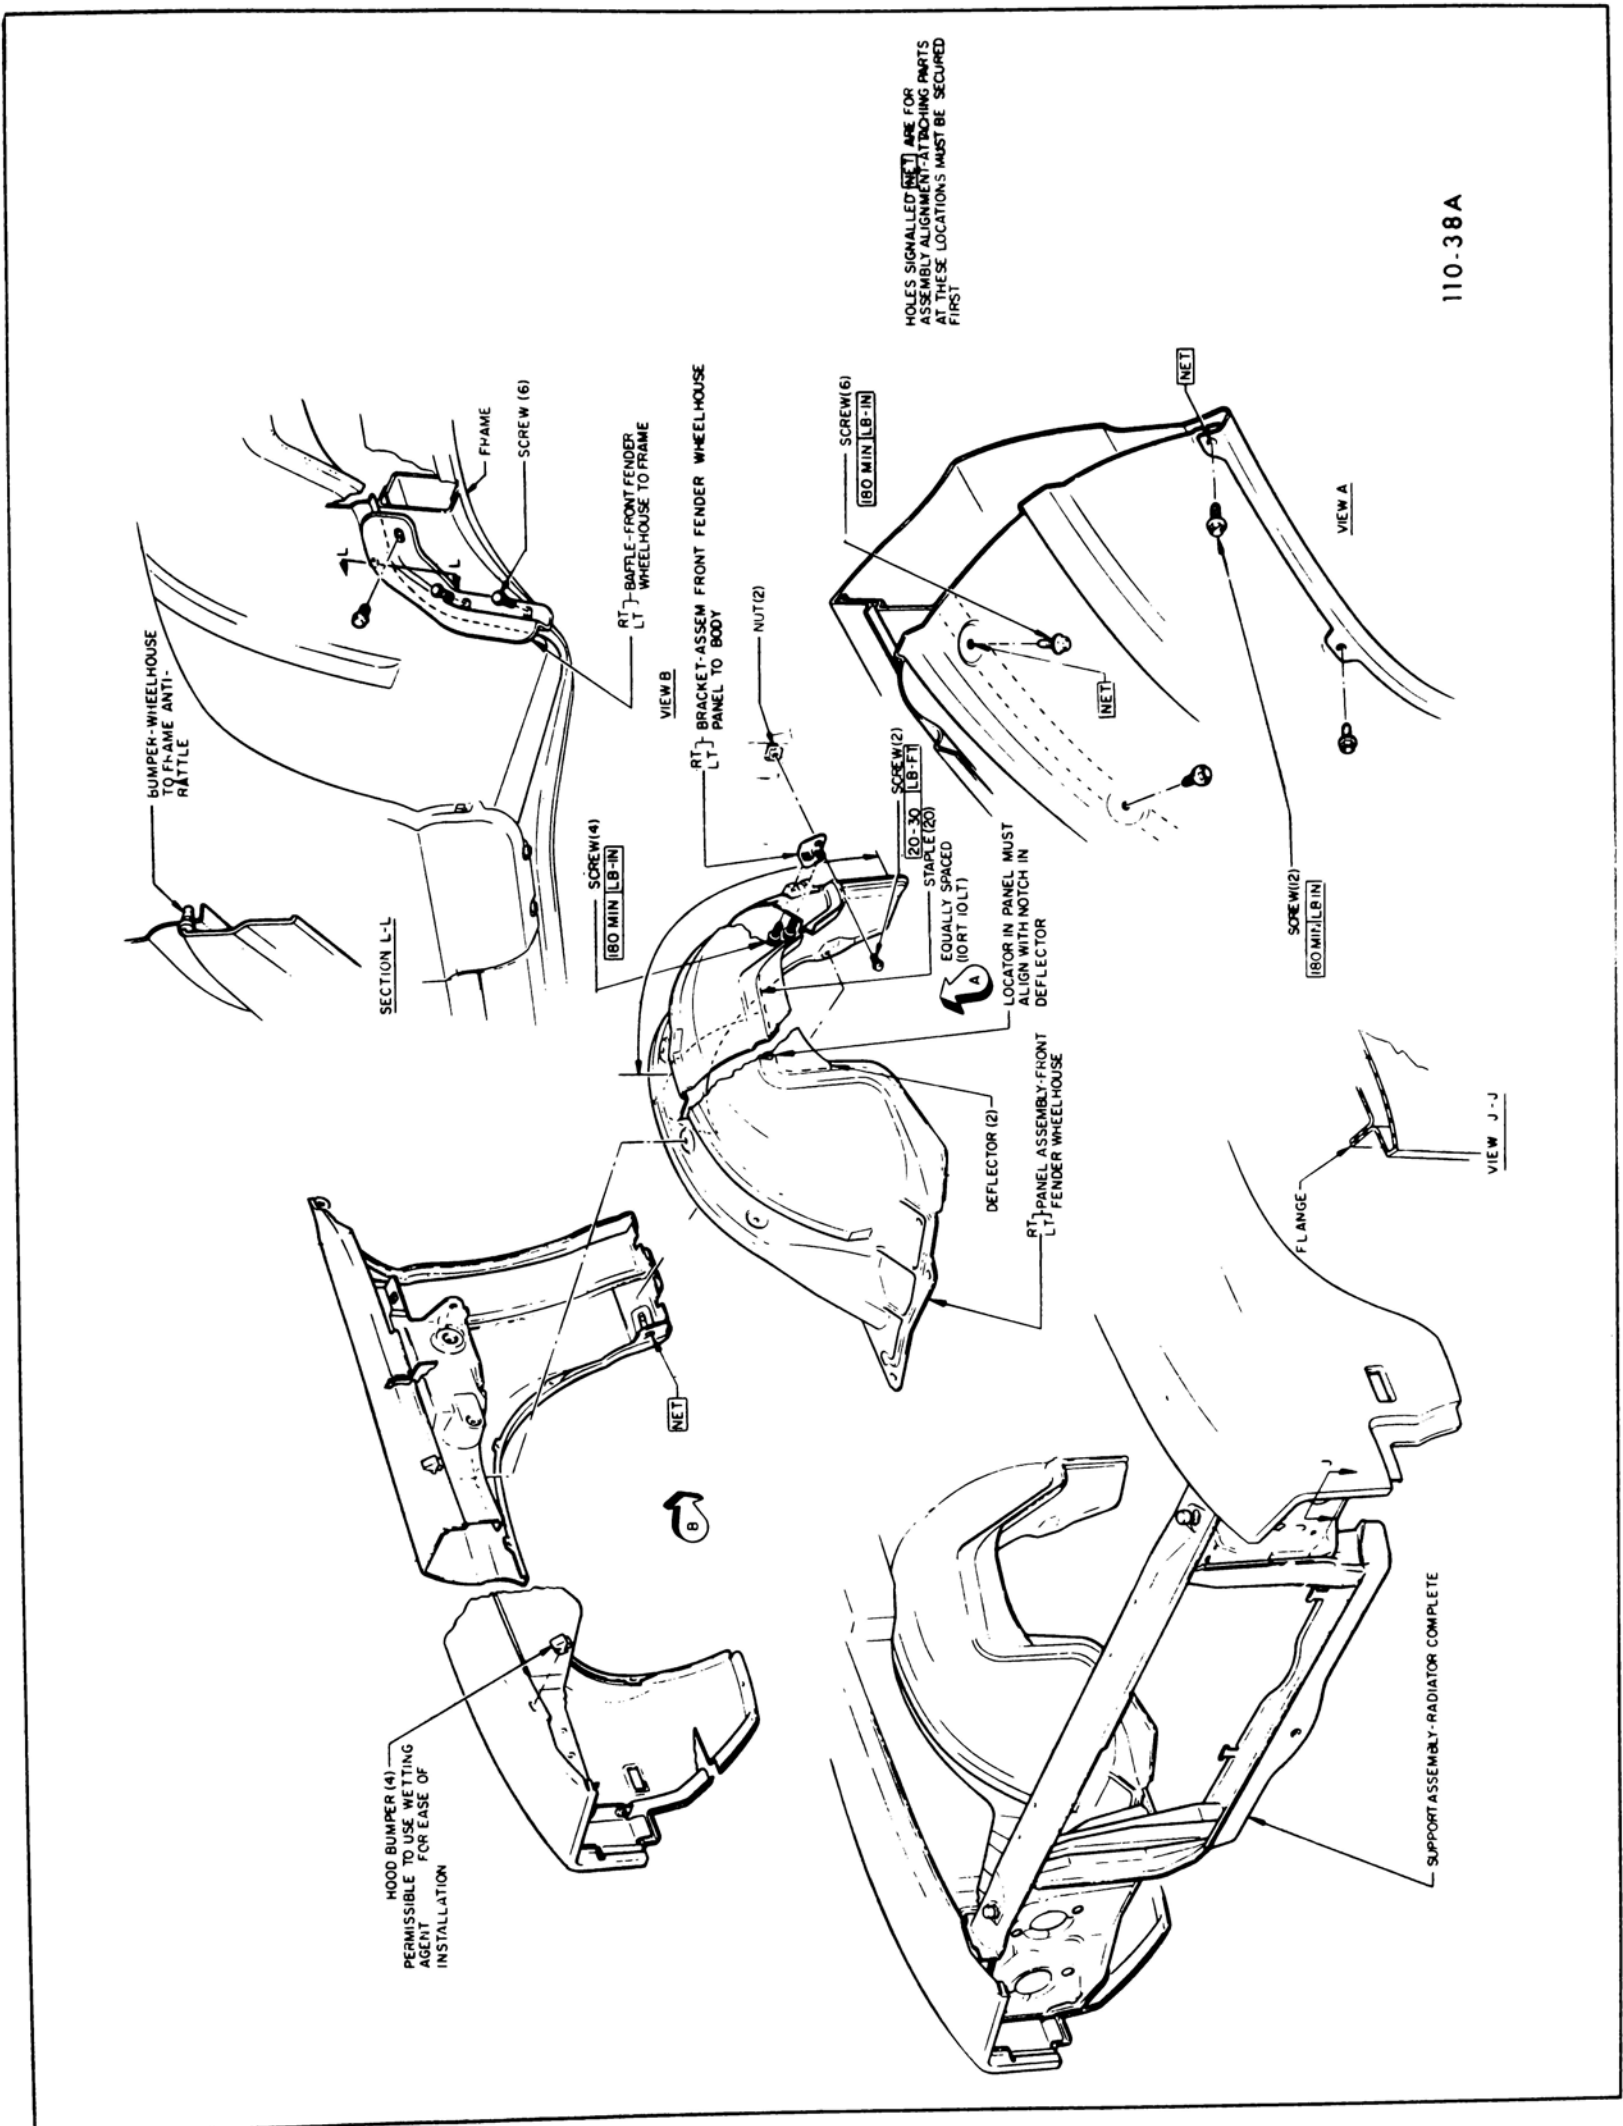

Figure 110-3 43-44000 Fender and Skirt
The chassis sheet metal assembly is attached to the frame and body at adjustment points. See Figures 110-3 and 110-5. The front of the assembly is supported by two mounts located at the frame side rails. Shims at these locations allow up and down movement of the front of the sheet metal assembly. Fore and aft and side adjustment is allowed by oversize holes at the fender rear attaching point and chassis sheet metal mounts. Special shims at the rear locations allow adjustment of the rear of the assembly. The lower rear edge of the assembly is attached to the body at the rocker panel by bolts on each side. Shims are used at this location to provide up and down adjustment at the rear of the fender.
17. Skirt can now be removed from fender by removing skirt to fender attaching bolts. See Figure 110-3.